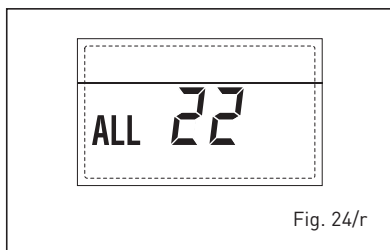

Fig. 24/r
- ANOMALIA GUASTO SONDA MANDATA SECONDA ZONA MISCELATA "ALL 23" (fig. 24/s)